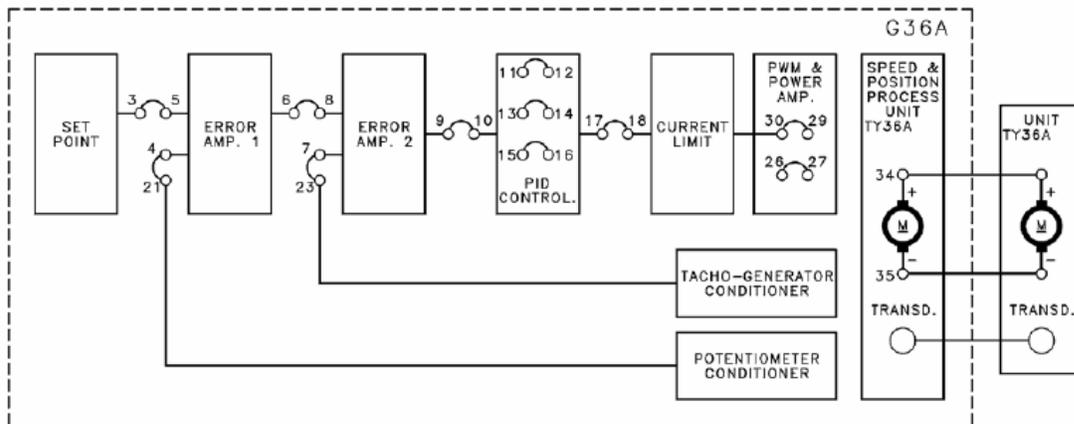

FIG. 4.5.5
- Carry out the circuit of fig. 4.5.5